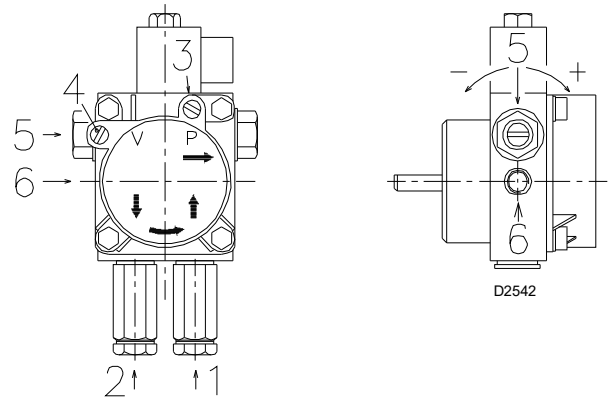

Fig. 21
- For self-priming to take place, one of the screws 3)(Fig. 21) of the pump, must be loosened in order to bleed off the air contained in the suction line.
- The pump is primed when the fuel oil starts coming out of the screw 3)(Fig. 21).
Key (Fig. 21)